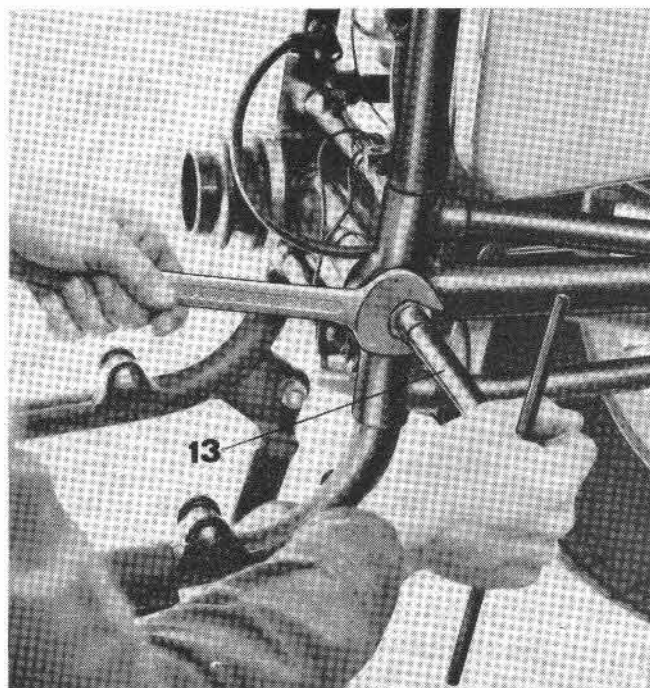

Fig. 104
- tighten locknuts allowing fork to swing freely. Use special wrench No. 12903000 (see 13 on Fig. 104) and open wrench to hold locknut.